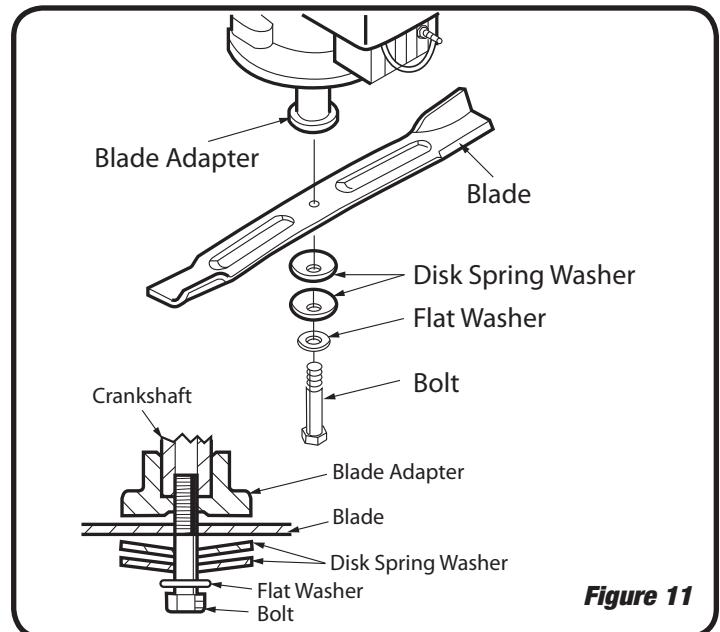

Figure 11
See Figure 11
5. Position the blade onto the blade adapter in the correct orientation. On each end of the blade, a blade "lift" portion lies on the opposite side of the blade from the sharpened edge. When positioning the blade onto the blade adapter, make sure the blade "lift" portion is facing towards the mower deck. See Figure 11.
6. Assemble the retaining bolt through the flat washer, (2) disc spring washers, blade, and blade adapter. Make sure the flat washer and (2) disc spring washers are in the proper order and orientation shown in fig. 11.